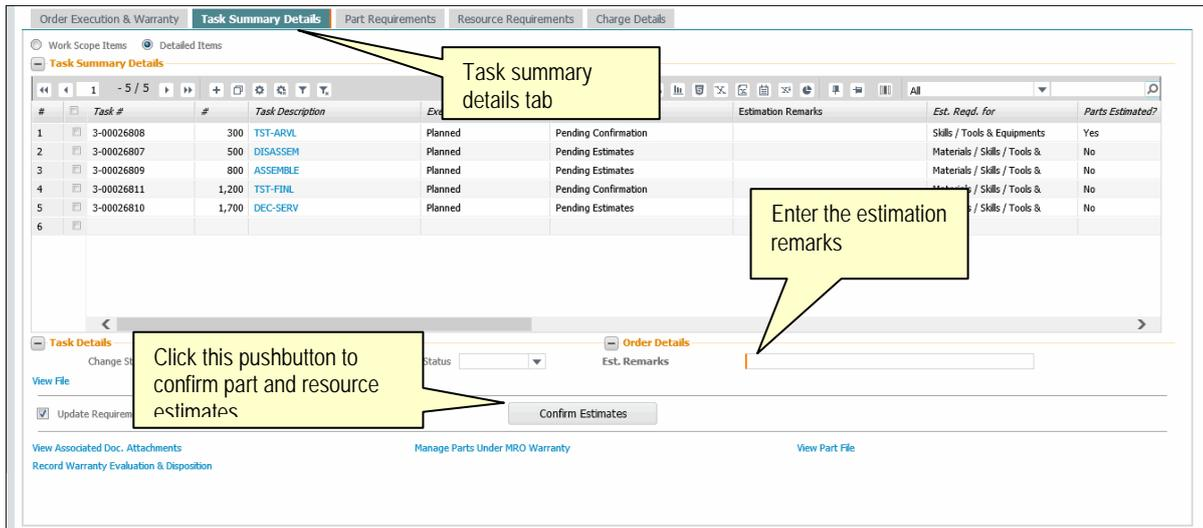

Figure 2.12 Edit work estimates - Task summary details
10. Select the **Task Summary Details** tab in the **Edit Work Estimates** main page. See figure 2.12.